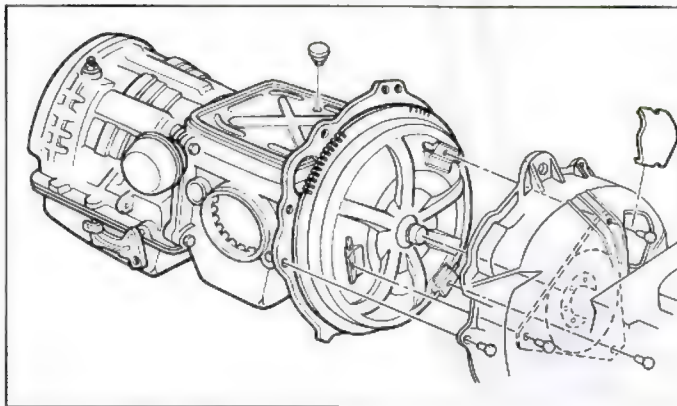

Fig. 48—Transaxle Separated from Engine
- d. Disconnect the converter from the engine flex plate by removing the three attaching bolts through the access hole at the 12 o'clock position in the converter housing (fig. 48). The converter may be rotated by prying against the starter gear teeth on the converter housing with a screw driver.